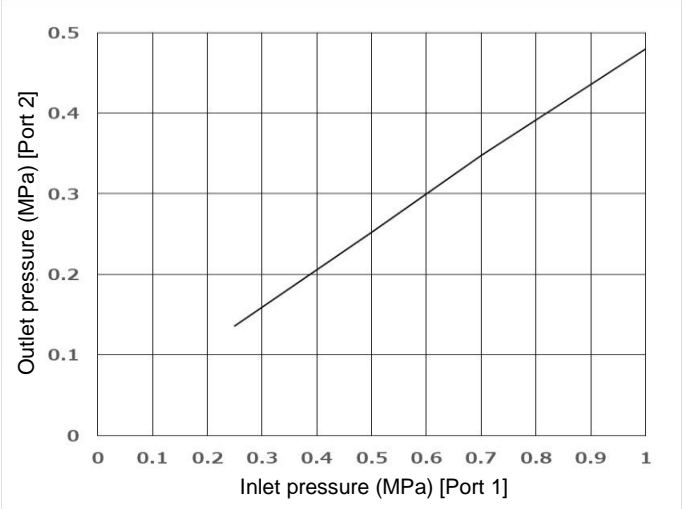

Figure 3. Switching pressure (Close → Open) of soft start-up (SS) valve
- The soft start function switching pressure depends on the outlet and inlet pressure as shown in Figure 3.
- When either of the valves SOL.1 or SOL.2 are de-energised, the protected system is vented to atmosphere. When the protected system pressure drops below Port 2 pressure (Figure 3), valve SS returns to its OFF state with NV limiting the flow to SOL.1 and SOL.2.